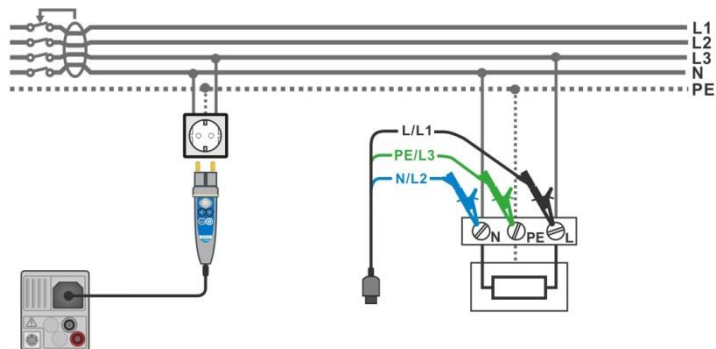

Figure 7.28: Connecting the Plug commander and the 3-wire test lead
- › Connect test leads or Plug commander to the object under test, see **Figure 7.28**.
<ul style="list-style-type: none"> <li>› Enter the RCD Auto function.</li> <li>› Set test parameters / limits.</li> <li>› Connect test cable to the instrument.</li> <li>› Connect test leads or Plug commander to the object under test, see Figure 7.28</li> <li>› Start the measurement.</li> </ul>	Start of test